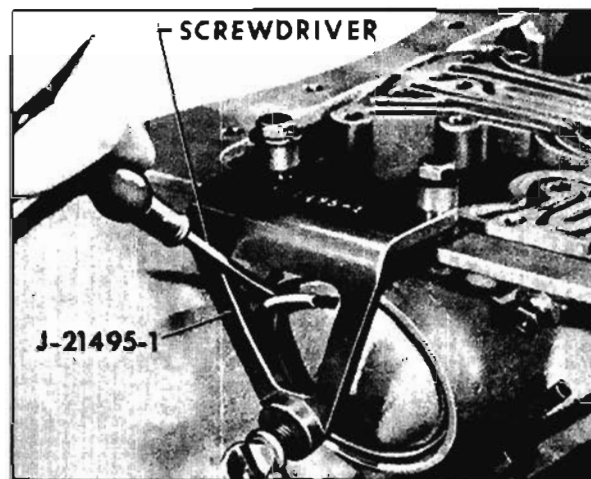

Fig. 6-271 Removing Low Servo Cover Snap Ring
2. Remove low servo cover snap ring. Use Tool J-21495-1 to compressor servo cover so snap ring can be removed. (Fig. 6-271)